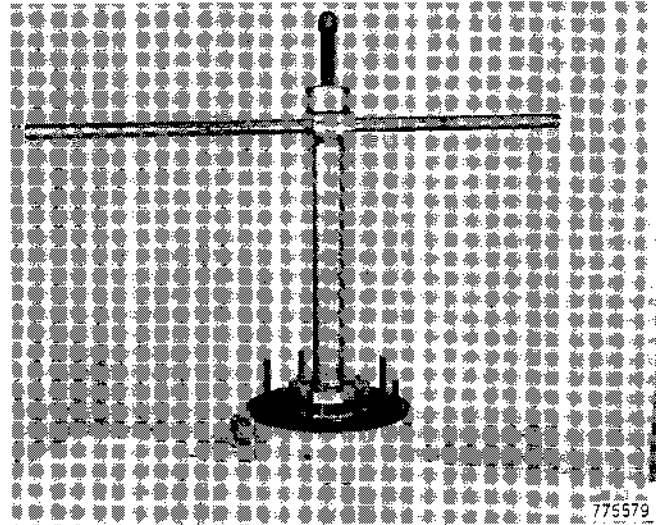

Figure 24
- a. Refer to page 6425-4 and install K960618 brake drum puller, Figure 24.